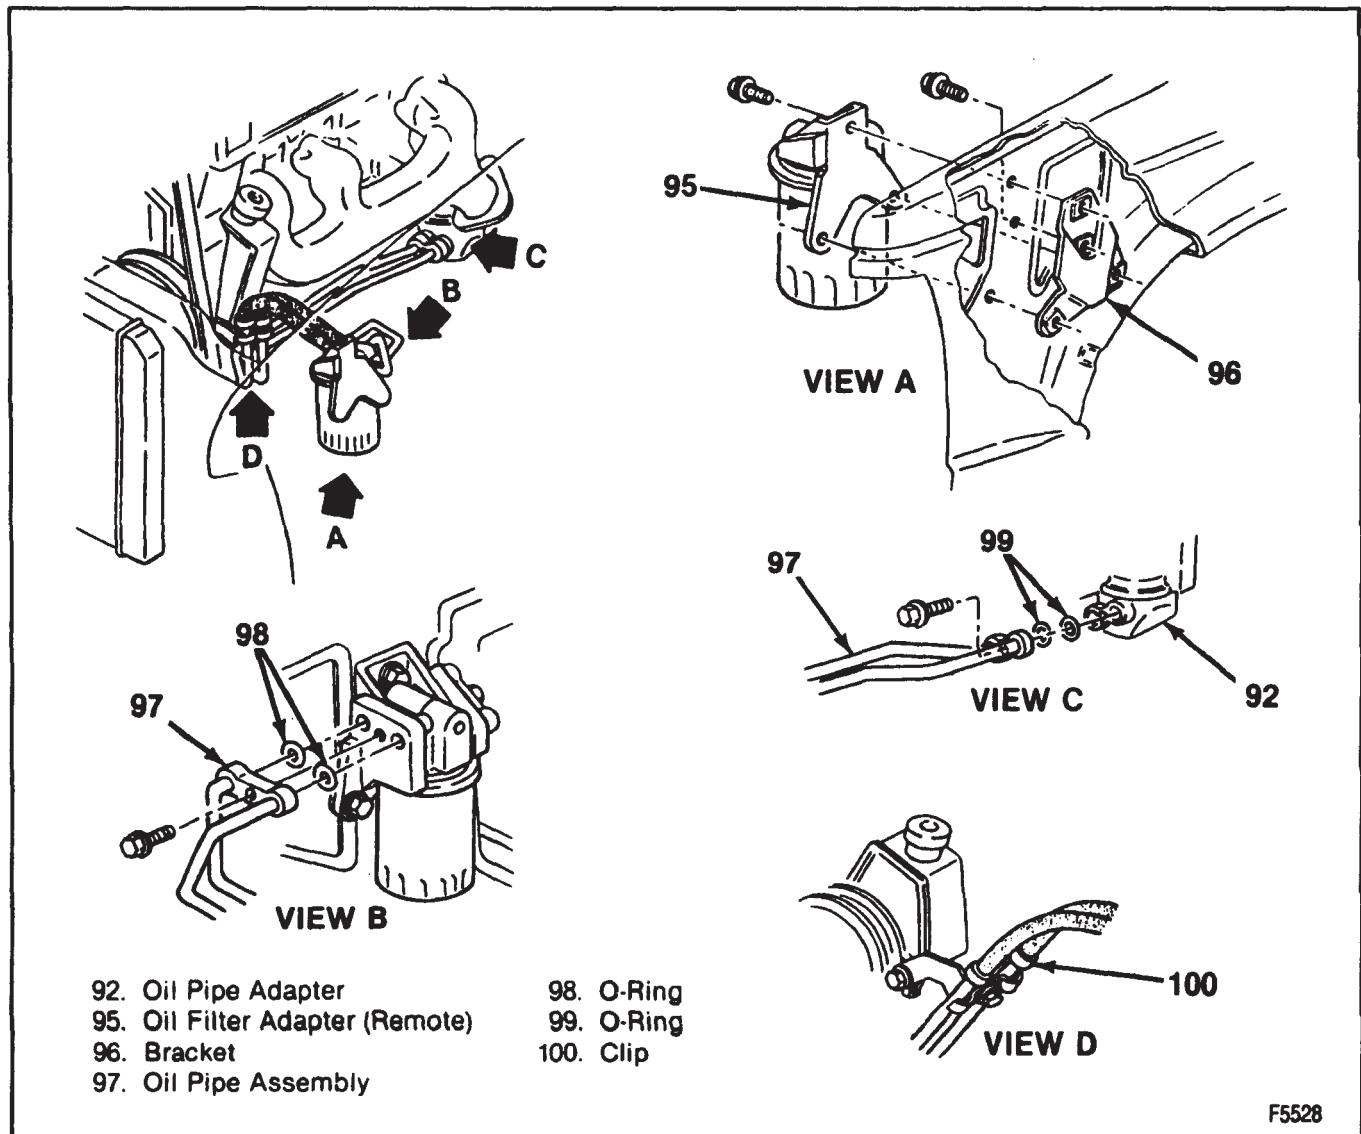

Figure 52—Remote Oil Filter
Remove or Disconnect (Figure 52)
Install or Connect (Figure 52)
- Route the flexible hoses as shown in figure 52. Make sure the hoses do not chafe against other components.
3. Clip (100).